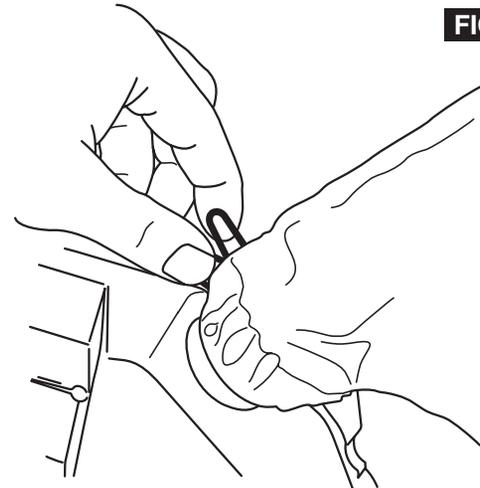

FIG. 5
1. With the miter arm locked in the down position, compress the two tabs on the spring clip and slide the bag over the rib on the dust port (Figure 5) then release the tabs.